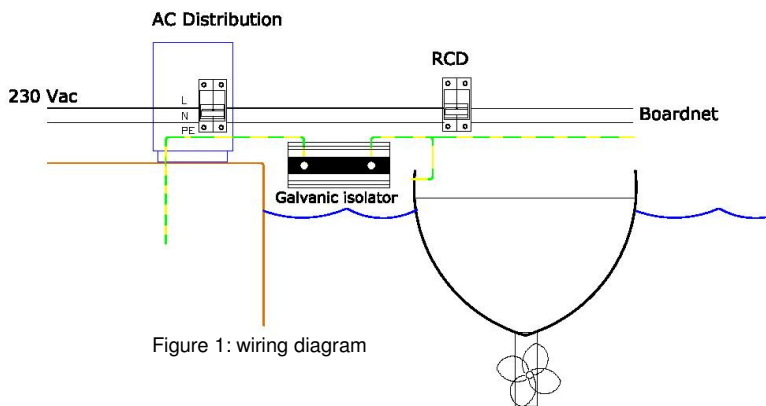

Figure 1: wiring diagram
- 2.3. Wire the galvanic Isolator into the green (safety) grounding conducting connection as shown in fig. 1.